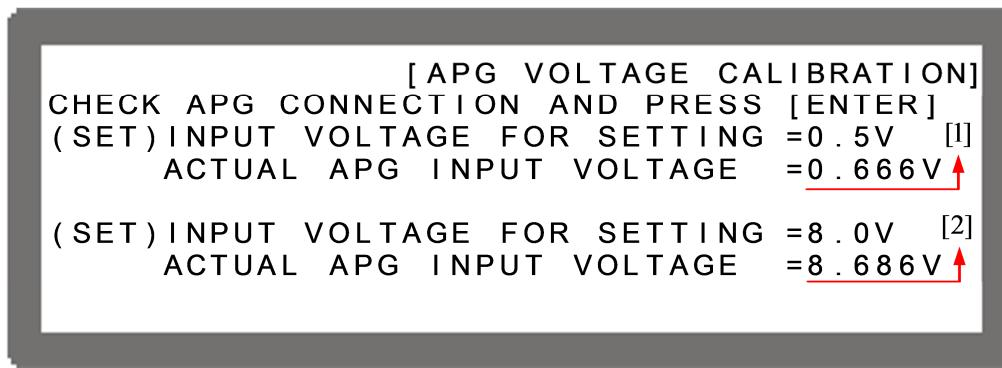

Figure 3-119
4. Input a 0.5V voltage signal on (Pin 3). The cursor stops at position [1] as shown in Figure 3-119. Adjust the Power Supply to  $0.5V \pm 0.2V$  and use DVM1 to measure the reading of the Power Supply. Input the voltage (enter 3 digits after the decimal point) read by DVM 1 to position [1] and press  "ENTER" to confirm.
5. Press  and input an 8.0V voltage signal on (Pin 3). The cursor stops at position [2] as shown in Figure 3-119. Adjust the Power Supply to  $8V \pm 0.2V$  and use DVM1 to measure the reading of the Power Supply. Input the voltage (enter 3 digits after the decimal point) read by DVM 1 to position [2] and press  "ENTER" to confirm.